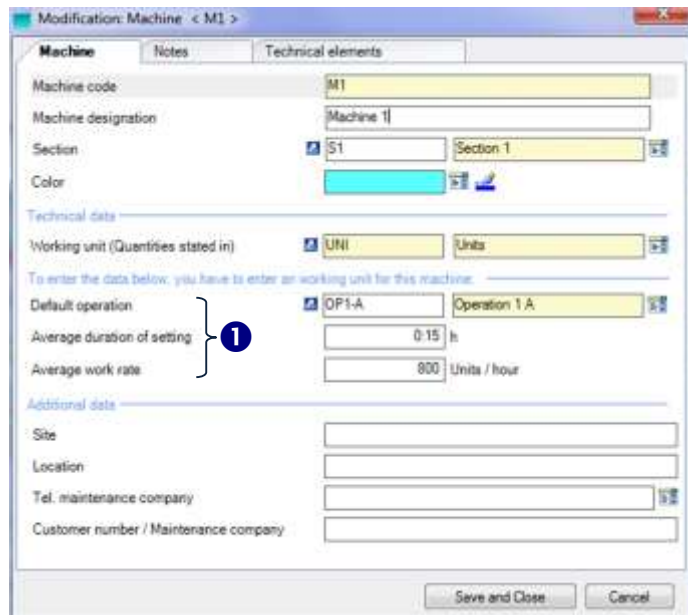

Figure 15 – The Machine form
- C Colors can play a significant role in the layout of the schedule. Depending upon the display modes configured by the administrator, colors can focus on such or such piece of data. When you create a machine (Figure 15), it is automatically or manually assigned a color, according to the administrator's setting. Clicking this button displays this window. ↓
However, if you want to enter the other technical data (marked ❶ at the Figure 15), you have to specify the working unit first.
In the Figure 15, we have 4 configurable areas.
In the Machine form (Figure 15, page 24), you may specify the working unit.
Reminder | When we created the M1 machine (Figure 15, page 24), we entered:
When you create the machine (Figure 15, page 24), you don't specify the working unit. This way, in the machine form, you can't enter a *default operation*, an *average setting time*, an *average work rate*.